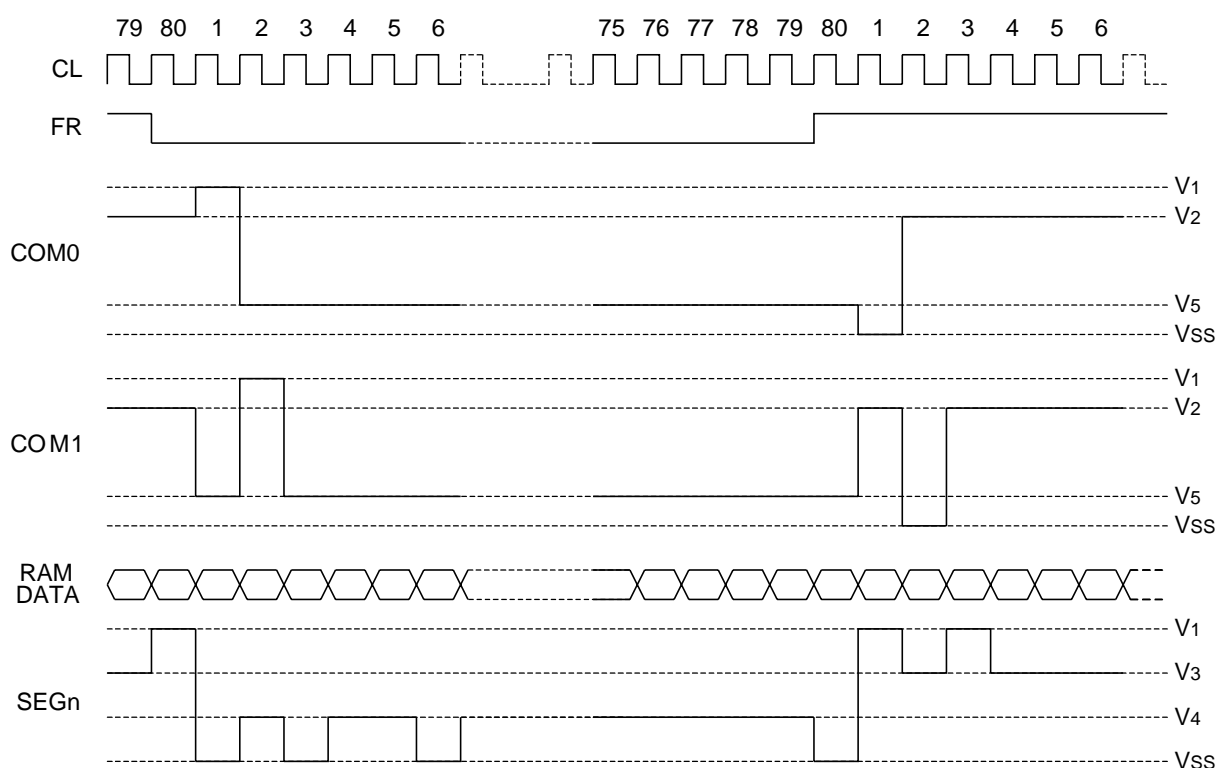

Figure 5 Frame Alternation Drive Waveforms
This circuit generates the timing signals for the line address circuit and the display data latch circuit from the display clock. The display data is latched by the display data latch circuit in synchronization with the display clock and output to the segment drive output pins. Readout of the display data to the LCD drive circuit is completely independent of microcontroller access to the display data RAM. This means that flicker or other problems never occur due to the display RAM being accessed asynchronously during display on the LCD panel. This circuit also generates the internal common timing and the LCD alternation signal (FR) from the display clock. The two-frame alternation drive waveforms shown in figure 5 are generated for the LCD drive circuit.